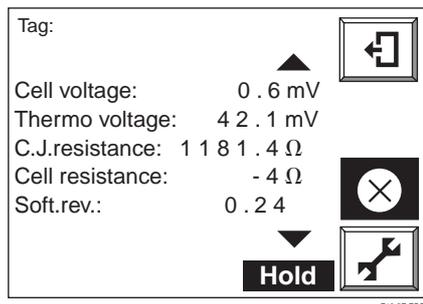

Figure 12.5 Detailed Data Display
- b. When the ▼ key is pressed once, the cell voltage should be indicated on the top line (Figure 12.5).